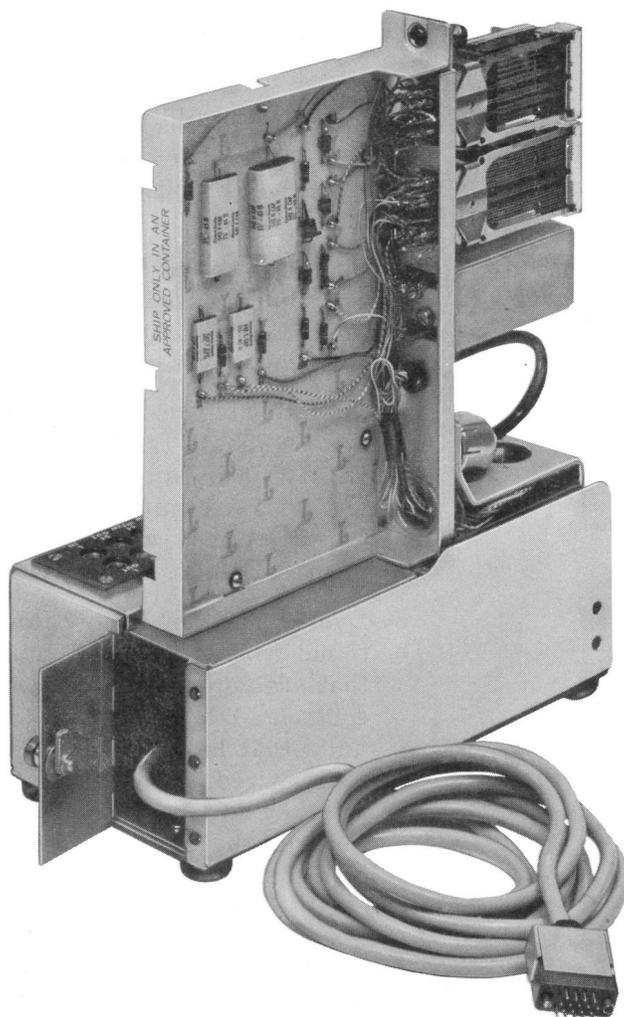

Fig. 2—Test Extender With SF Unit in Place
2.03 The extender has a storage area built into one of its ends. This area provides storage for two test cords. One of these cords (shown in Fig. 2), is permanently attached to the extender and connects to the bay mounting (J-1 jack) of the SF unit under test. It is 10 feet long, and can easily reach the top SF units in the bay. The other cord, which must be ordered separately, is used when testing special service SF units in the ground start mode. This cord permits one SF unit to be tested in the test extender while its associated auxiliary SF unit remains in its in service position.